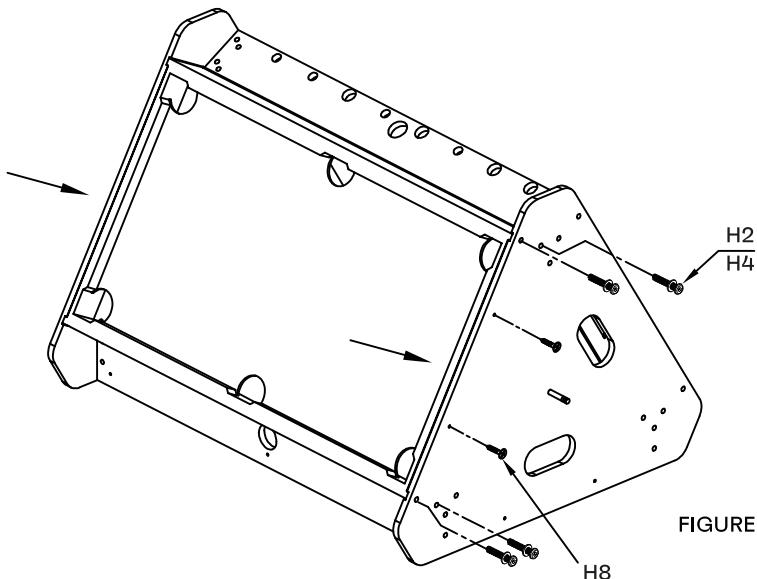

FIGURE 7
19. Insert the pool table to the groove on the triangular panel and attach it with H2 and H4 as shown in figure 7 (do not over-tighten hardware).